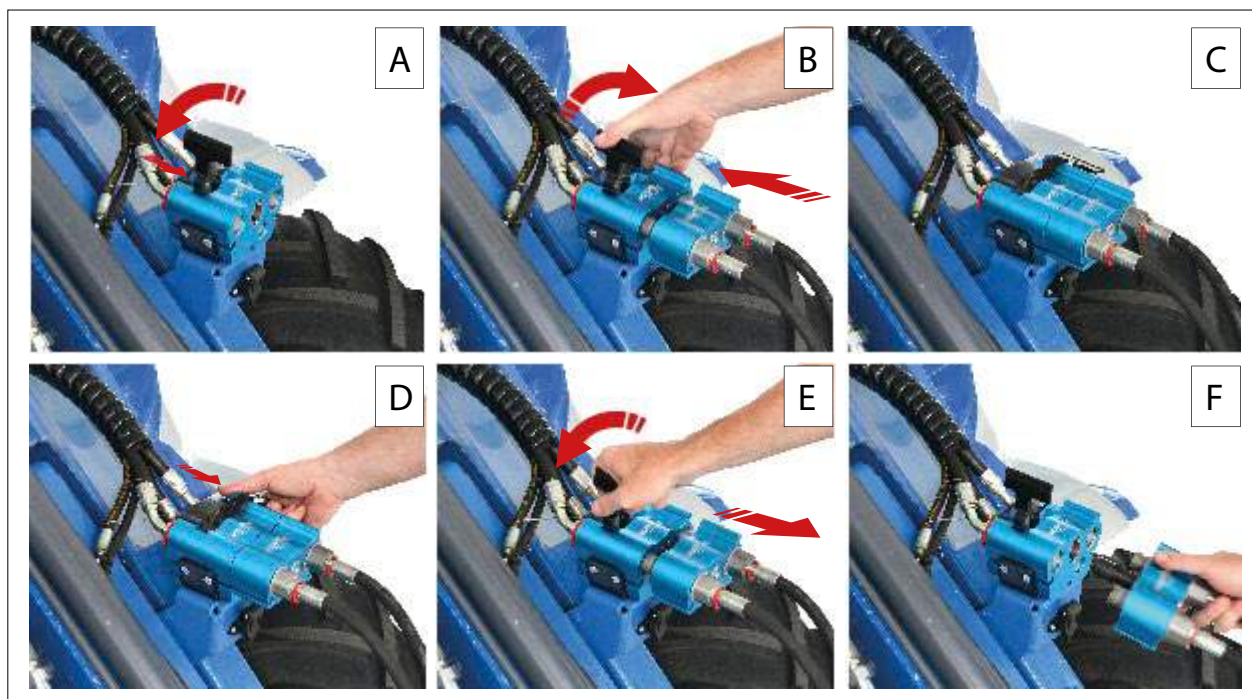

FIG. 27
Before making hydraulic connections between the machine and the attachment (FIG. 27) you need to release the residual pressure in the hydraulic circuit of the machine. To make this proceed as follows:
- 2) Press the lock button (FIG. 26 - Ref. 2) on the lock handle and raise the lock handle (FIG. 26 - Ref. 3) to the unlocked position (FIG. 27 - Ref. A).
- 4) Pull the lock hand (FIG. 27 - Ref. B) downwards, drawing the adapter plate into the connector (FIG. 27 - Ref. C).
- 1) Press the lock button (FIG. 27 - Ref. D) on the lock handle and raise the lock handle to the unlocked position (FIG. 27 - Ref. E).
- 2) Disconnect the attachment's hydraulic lines from the machine (FIG. 27 - Ref. F).